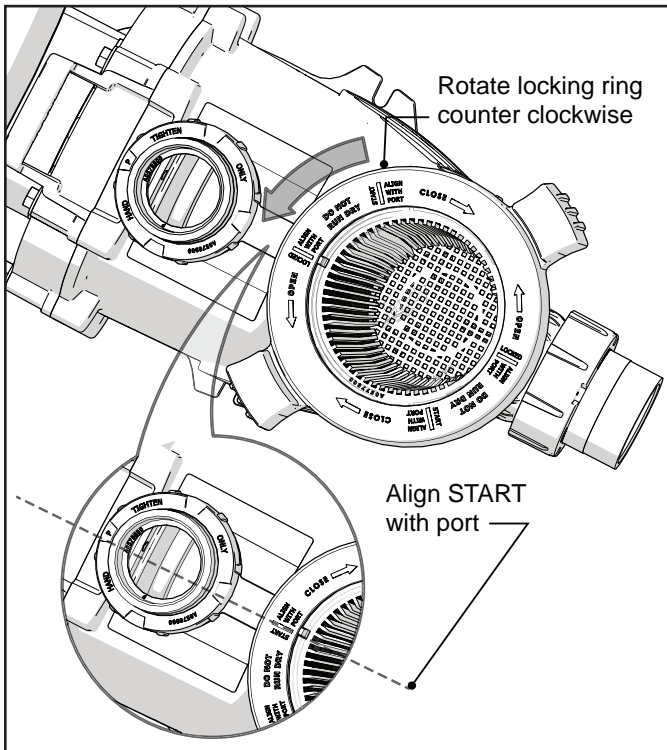

Figure 10. Disengage Lock Ring
4. Turn the locking ring counter-clockwise until the 'START' markings align with the ports. See Figure "Figure 10. Disengage Lock Ring"